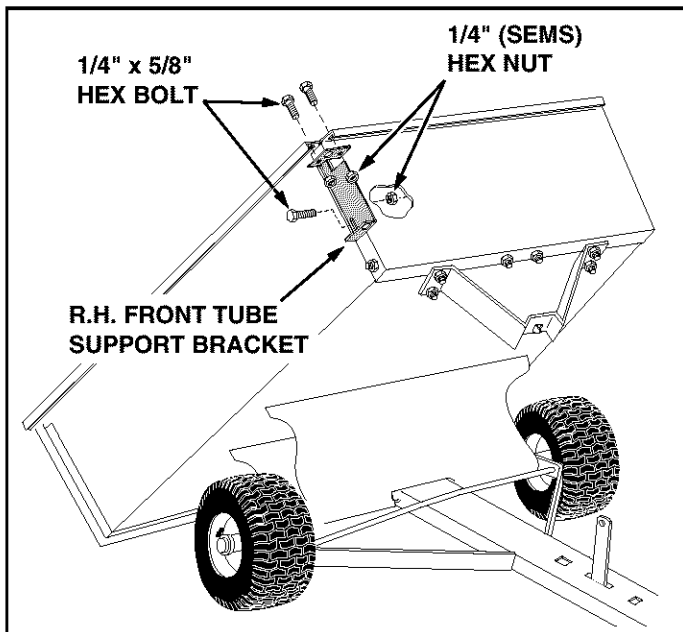

FIGURE 10
- Place the R.H. Front Tube Support Bracket under the top flanges of the cart, as shown in figure 10. Fasten the bracket to the cart using three 1/4" x 5/8" hex bolts and 1/4" SEMS hex nuts. **Do not tighten yet.**